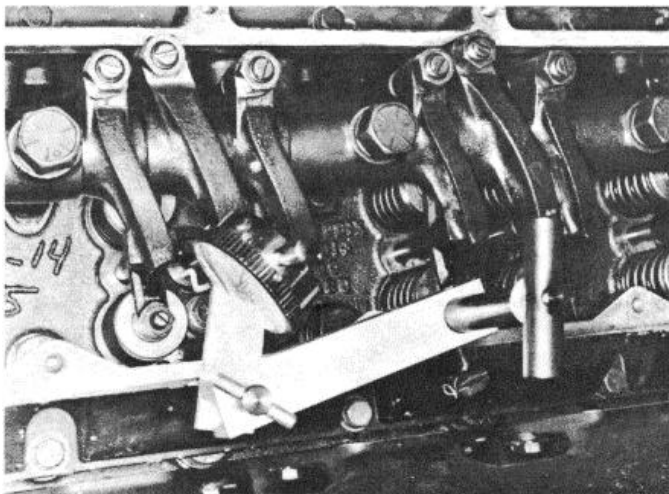

Fig. 2-38, (V514114). Dial indicator in place - V-903
1. Set up the ST-1270 Indicator Support with the indicator extension atop the injector plunger flange at No. 2 cylinder, Fig. 2-38.